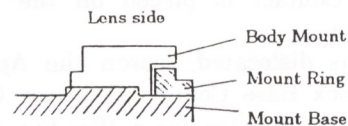

Fig.43
- \* Install the Mount Ring (1AM79000) in the orientation as shown in Fig. 43.